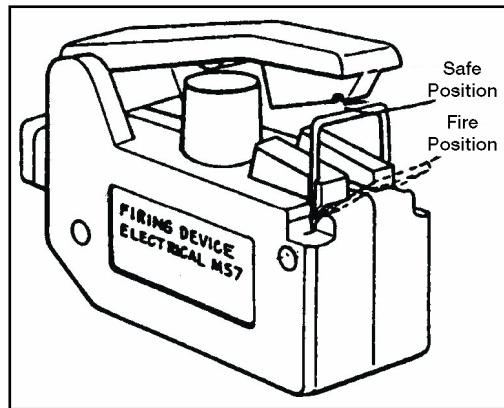

Figure 071-325-4425-13. Firing device in the FIRE position
- c. Position the firing device safety bail in the FIRE position (figure 071-325-4425-13).